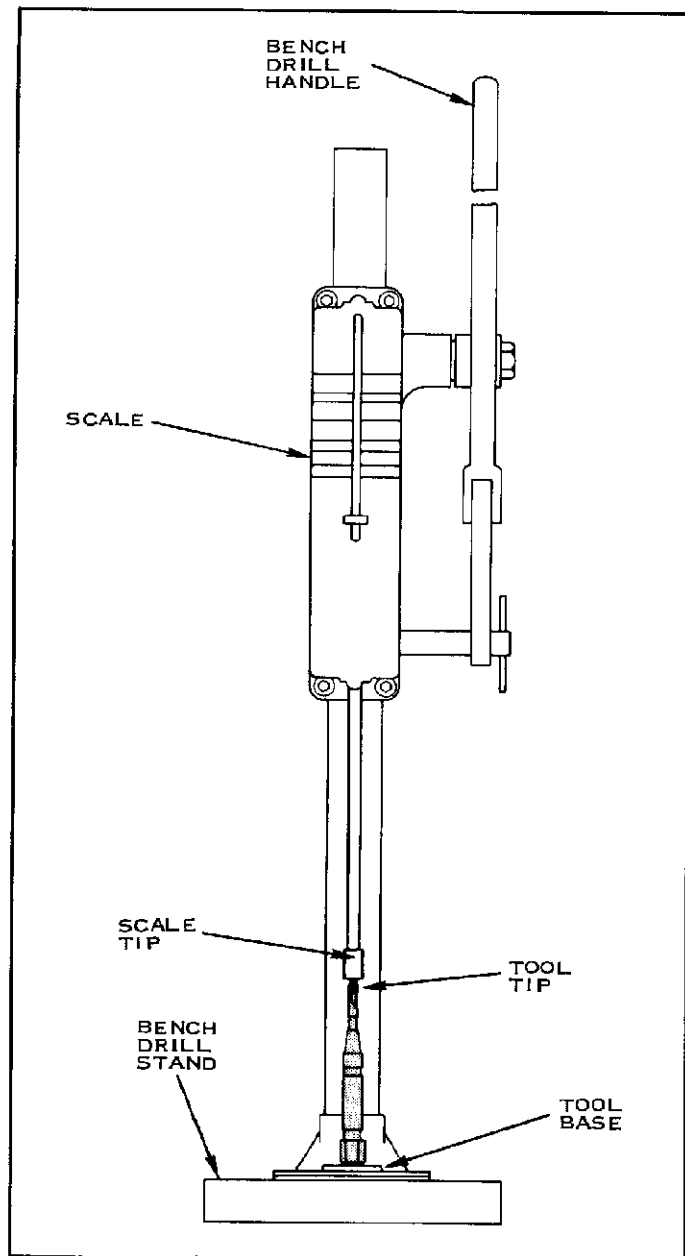

FIGURE 1
Proper Taper Pin retention is assured only when the Trip Force is properly adjusted. To check the Trip Force accurately, you will need a Gage that indicates the Trip Force in pounds. Use a Chatillon Scale #30 D with Van Dorn Drill Stand (bench type) #22145, Size 40 or their equivalents. See Figure 1. Test the Insertion Tool as follows:
1. Place Tool Tip under Scale Tip with the Tool Base on Bench Drill Stand. See Figure 1.